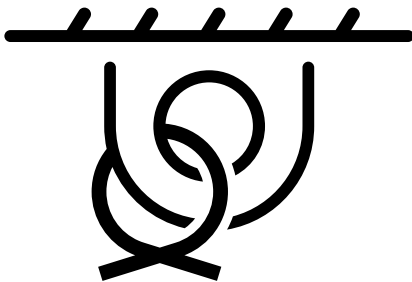

Figure 7. Tie-Down Symbol
1. Locate the tie-down symbols (Figure 7) on each side of the trowel.